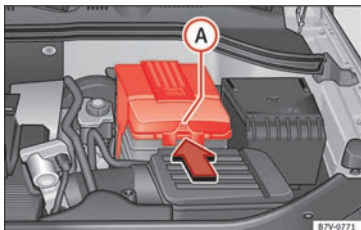

Fig. 249 In the engine compartment: remove the lid from the vehicle's battery.
- *In the case of a lid:* press the tab » **Fig. 249**